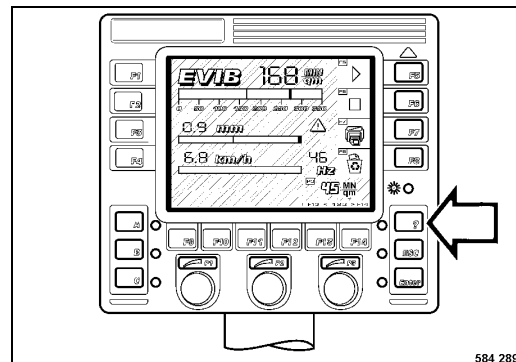

Fig. 79
- Press "?" (Fig. 79) to change to the menu screen.